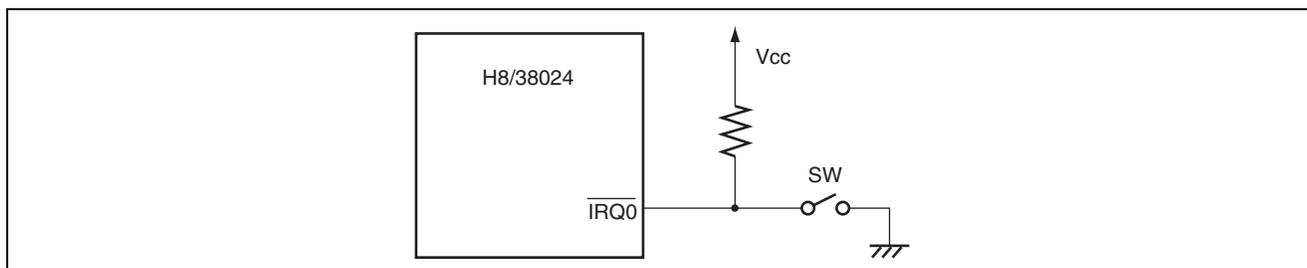

Figure 1.1 Example of Switch Connection for Transition to High-Speed Sleep Mode
7. Figure 1.1 shows an example of connecting a switch to the $\overline{\text{IRQ0}}$ pin.